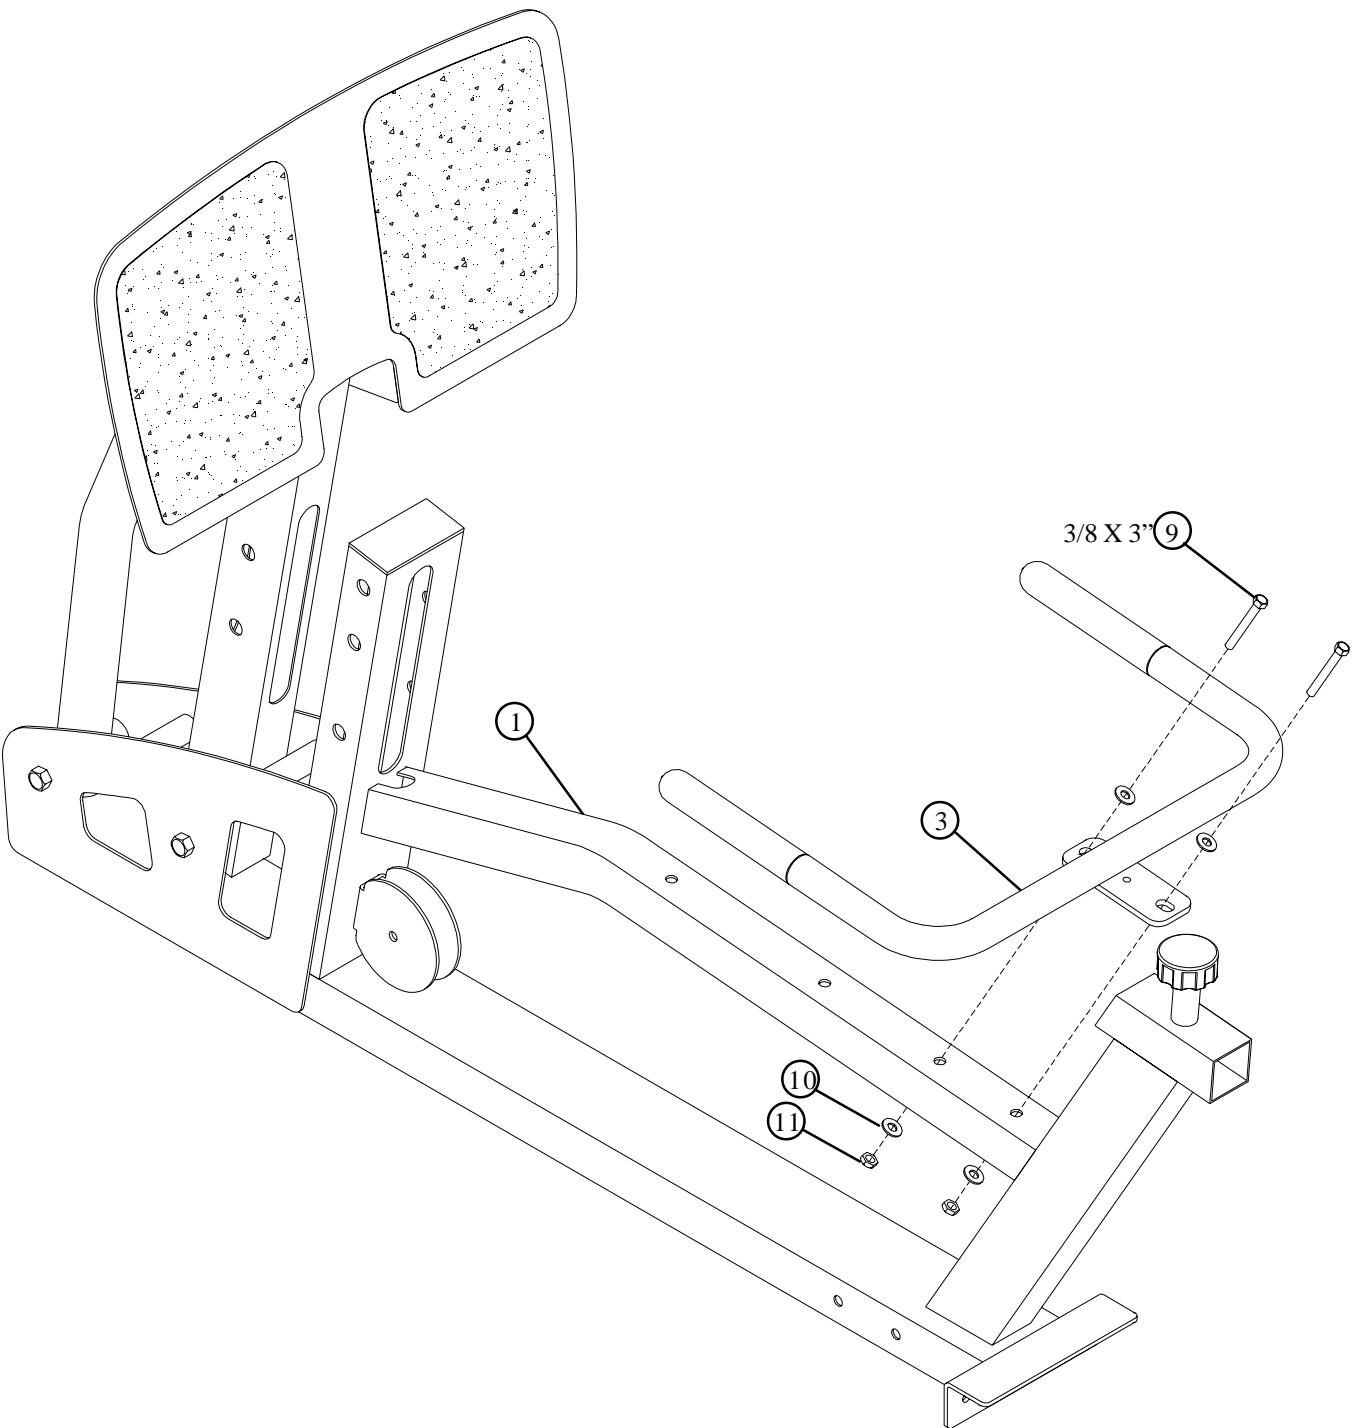

**FIGURE 4**
- **SECURELY** assemble the FOOTPLATE (6) to the SECOND ARM (5) and the MAIN ARM (4) using two 1/2 X 4-3/4" BOLTS (12) and two 1/2" LOCK NUTS (13). See FIGURE 4.